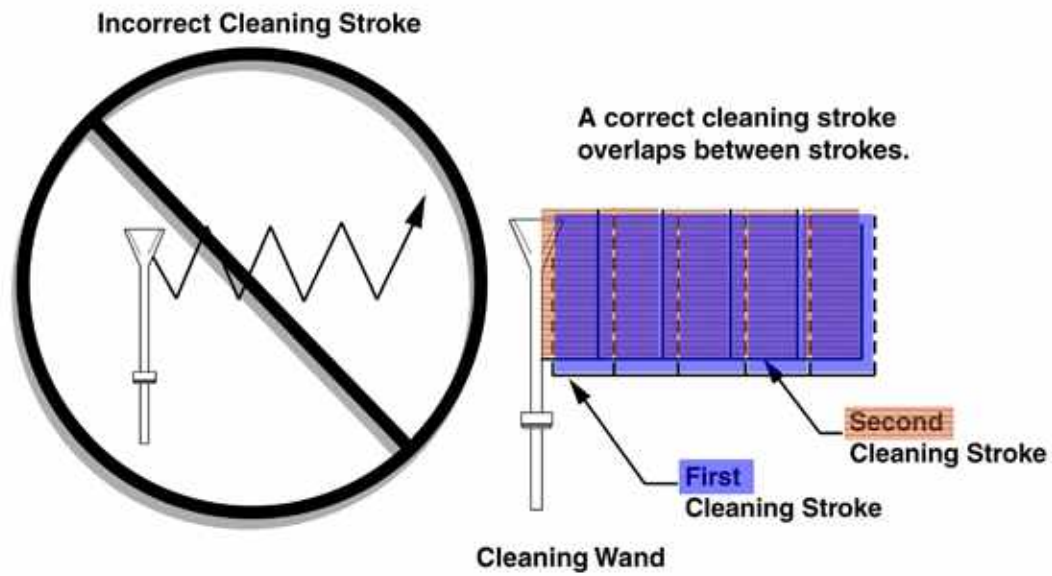

Figure 2-2. Cleaning Stroke Procedure
5. Overlapping is also important to ensure even application of solution and prevent saturation when the cleaning tool is stopped twice at the same point at the rear of the cleaning stroke Figure 2-2.